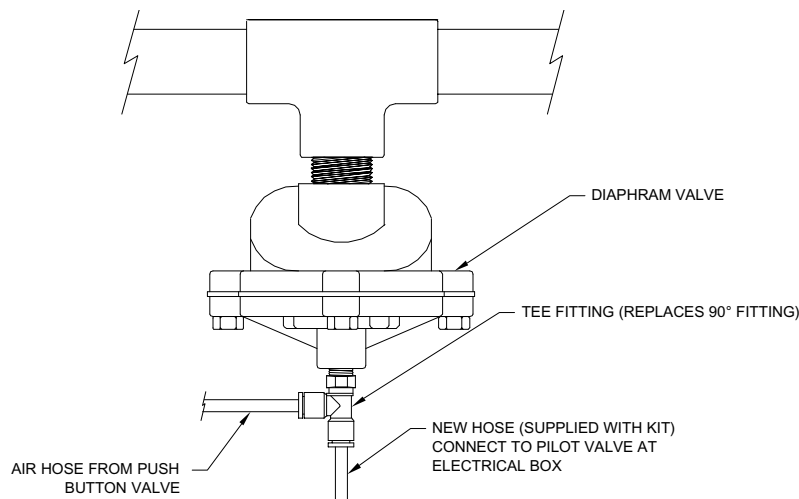

FIG. 4
9. Locate diaphragm valve (item 18, Pg. 14). Disconnect black air line from press fit fitting.
10. Re-connect black air line into one side of tee fitting (See **FIG. 4**). Using black air line supplied with kit, attach one end to tee fitting and the other end to the pilot valve installed earlier.